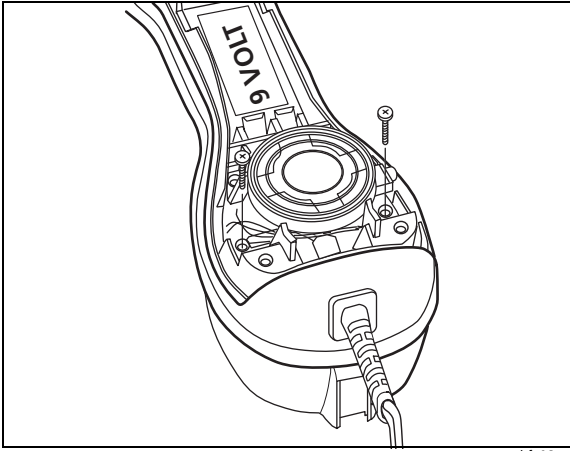

Figure 6. Removal/Installation of Line Cord Screws
- 3 Loosen the two screws that hold the line cord to the PCB (see Figure 6).